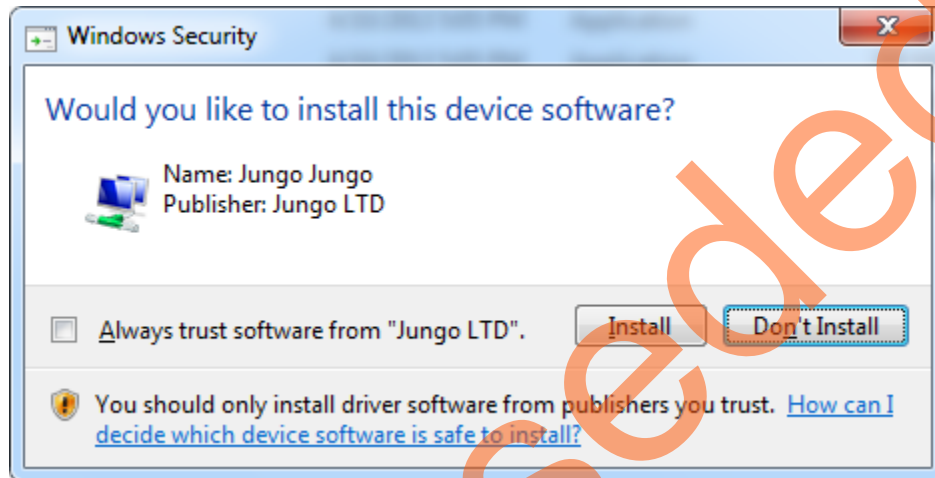

Figure 53 • Jungo Driver Installation
3. Click **Install** if the window is displayed as shown in Figure 53.